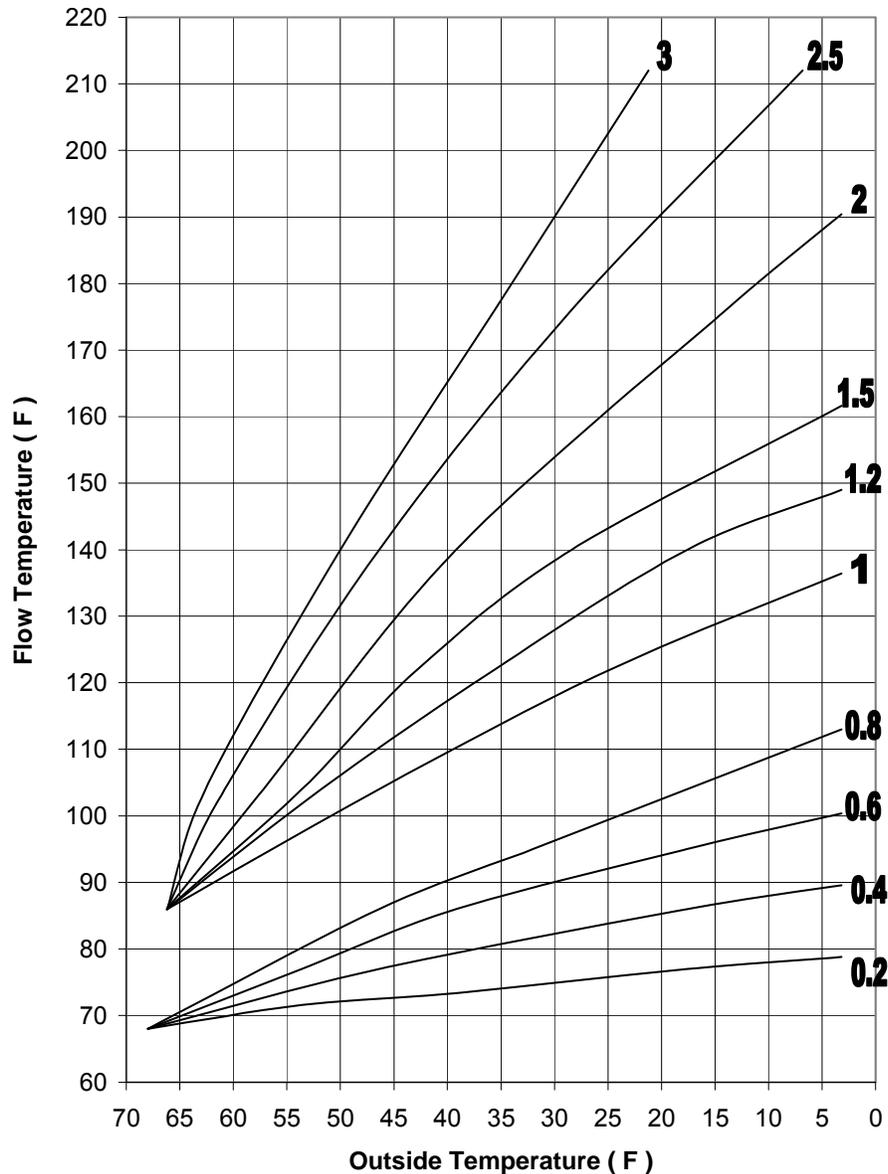

Figure 4-1. Heat Slope Diagram
8. Refer to the Heat Slope Diagram shown in Figure 4-1 to determine the required value for the HEATSLOPE function based on the boiler installation design set point. The value to be entered must be between 0 and 3.00.